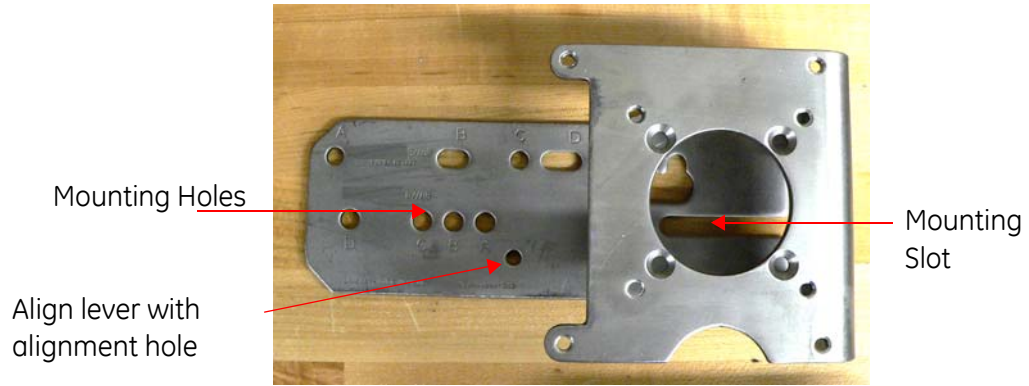

Figure 20 Ensure Position Linearity
12. Ensure the adjustable link turnbuckle is parallel to the valve stem. Verify that the hole in the lever aligns with the alignment hole in the bracket when the valve is in the closed position. Check that the bracket is mounted using the proper holes (Figure 20).